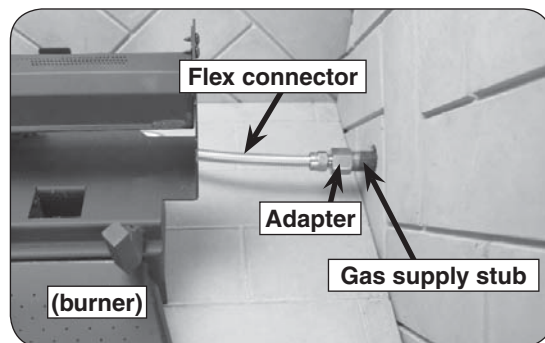

Fig. 20-1 Connect gas supply
2. Locate the gas-supply stub inside the fireplace and remove the cap, if attached (reference Fig. 20-1).
4. **Be sure gas to the fireplace is off.** Remove the adapter connected to the flex connector (pre-installed on the burner system). Attach the adapter to the gas-supply stub using a pipe compound resistant to all gasses. Tighten securely. Then attach the open end of the flex connector to the adapter. Tighten securely. (See Fig. 20-1.)